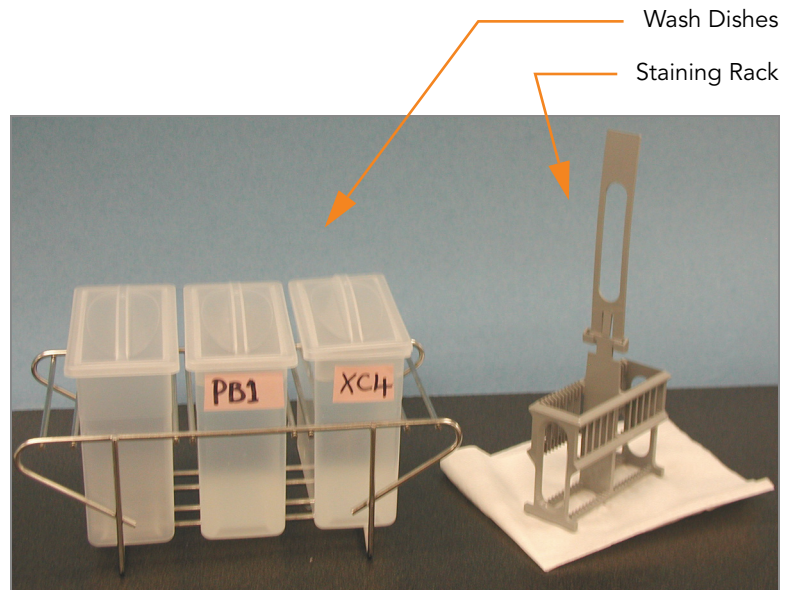

Figure 190 PB1 and XC4 Wash Dishes with Staining Rack
2. Set up two top-loading wash dishes, labeled "PB1" and "XC4" (Figure 190).